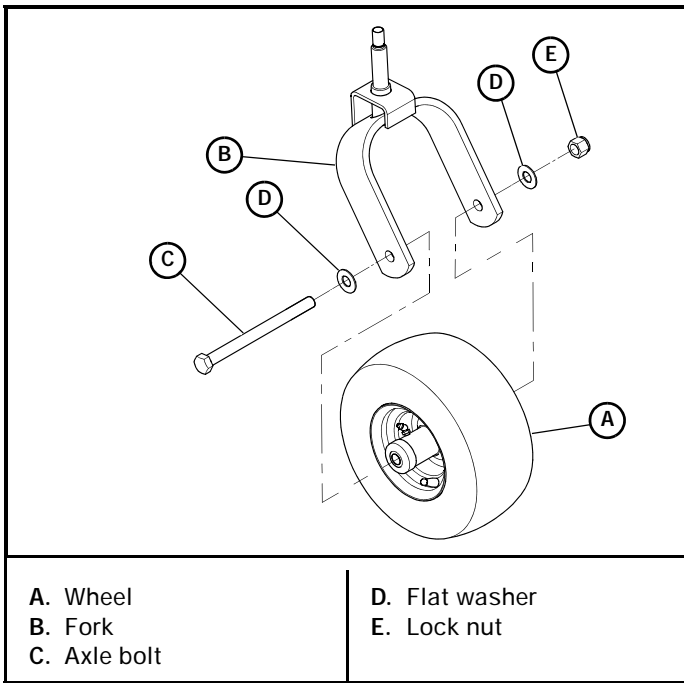

Figure 4-40
3. Remove the wheel from the fork by removing the axle bolt, flat washers, and lock nut. Figure 4-40